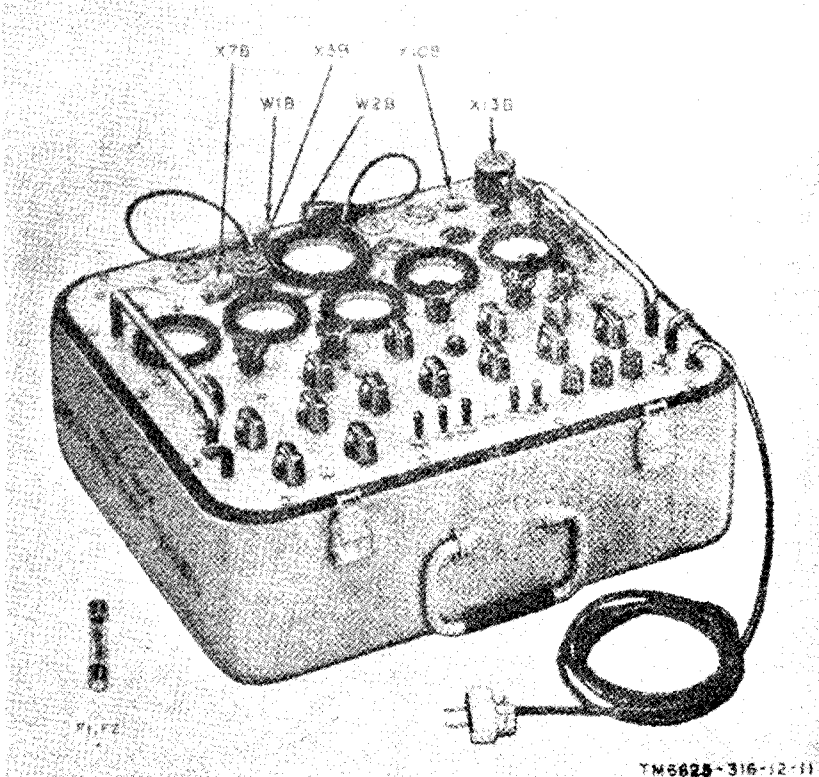

Figure 5. Panel of Test Set, Electron Tube TV-2B/U, showing location of test adapters (fuse also shown).
b. *Test Adapters.* A test adapter X13B (fig. 1) is included to provide a test socket for eight-pin, subminiature, long lead tubes. Three test adapters (fig. 5) (X3B (eight-pin octal), X7B (nine-pin noval), and X10B (seven-pin miniature)) are included with each TV-2B/U. The test adapters are installed in their corre-